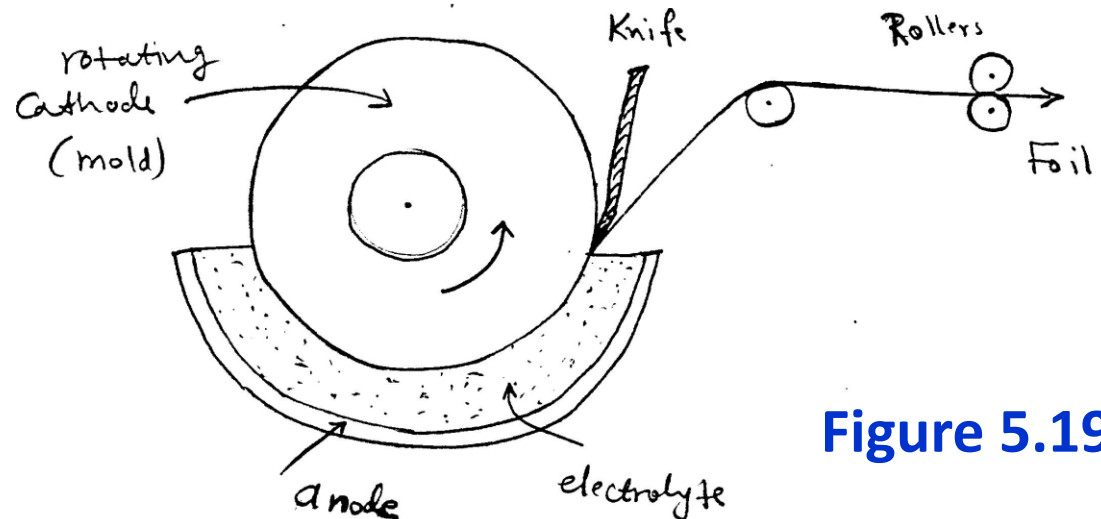

Figure 5.19
- Metal sheets or foils with the desired dimensions can also be made by electroforming (See **Figure 5.19**).